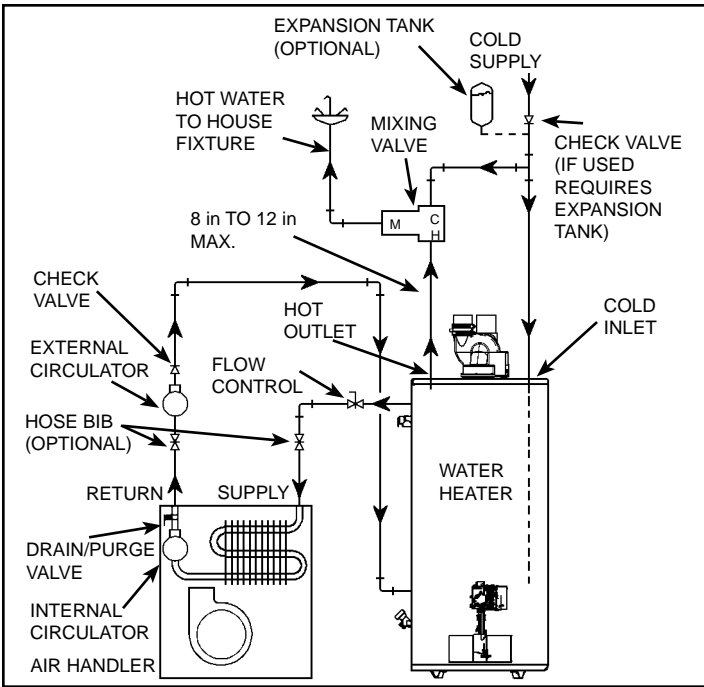
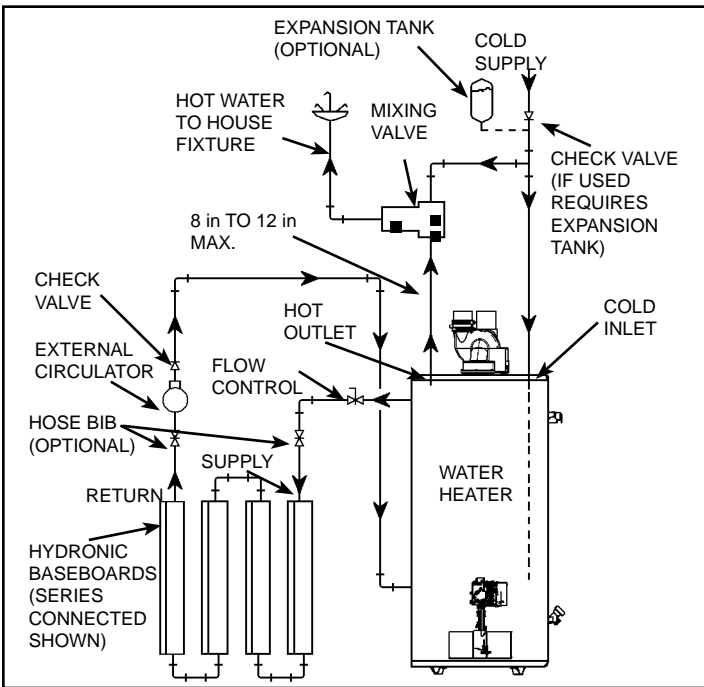

Figure 49
Figure 50
8. "Combo" Heating Systems require higher water temperatures than other applications. When the system is used to supply water for Combo Heating applications, a means, such as mixing valve, must be installed to temper the water in order to reduce scald hazard potential (see Figure 49 & Figure 50).
- A. A fan coil/air handler (Figure 49).
- B. A hydronic baseboard (finned tube) loop/In floor heating (Figure 50).